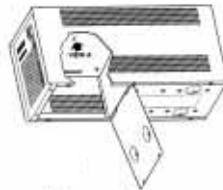

fig. 1: Frequency Selector Switch
2. Remove and retain the two Phillips head screws at the bottom front of the unit that secure the battery access door (fig. 1).
4. The frequency selector switch, located at the top of the UPS battery access panel, can be set to the desired frequency using a small, standard screwdriver or similar tool (fig. 1).